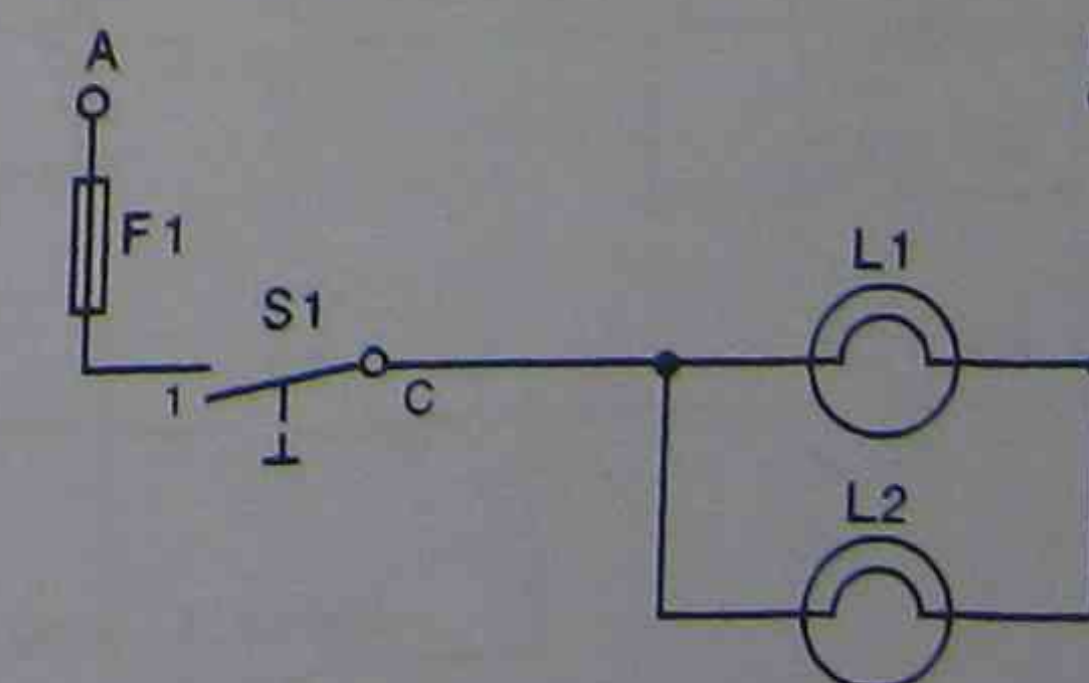

Figure12 Circuit diagram
11. For the circuit diagram shown in Figure 12 neatly sketch on the layout of Figure 13 the wiring diagram for the circuit.